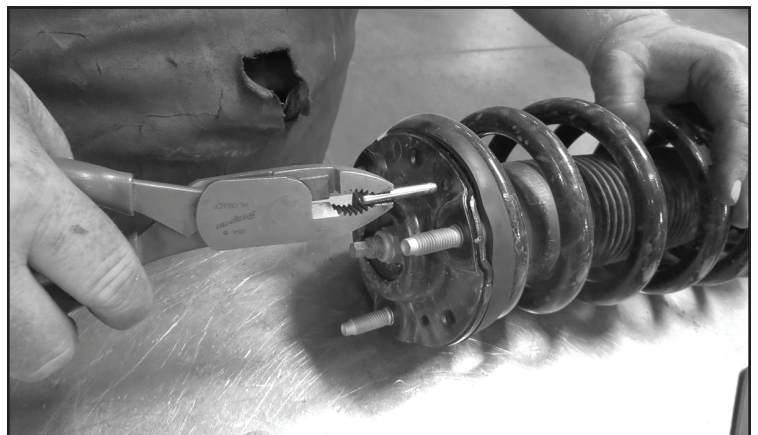

FIGURE 10 - STEP 10
10. Remove and discard the locating pin from the factory strut top cap. **SEE FIGURE 10**